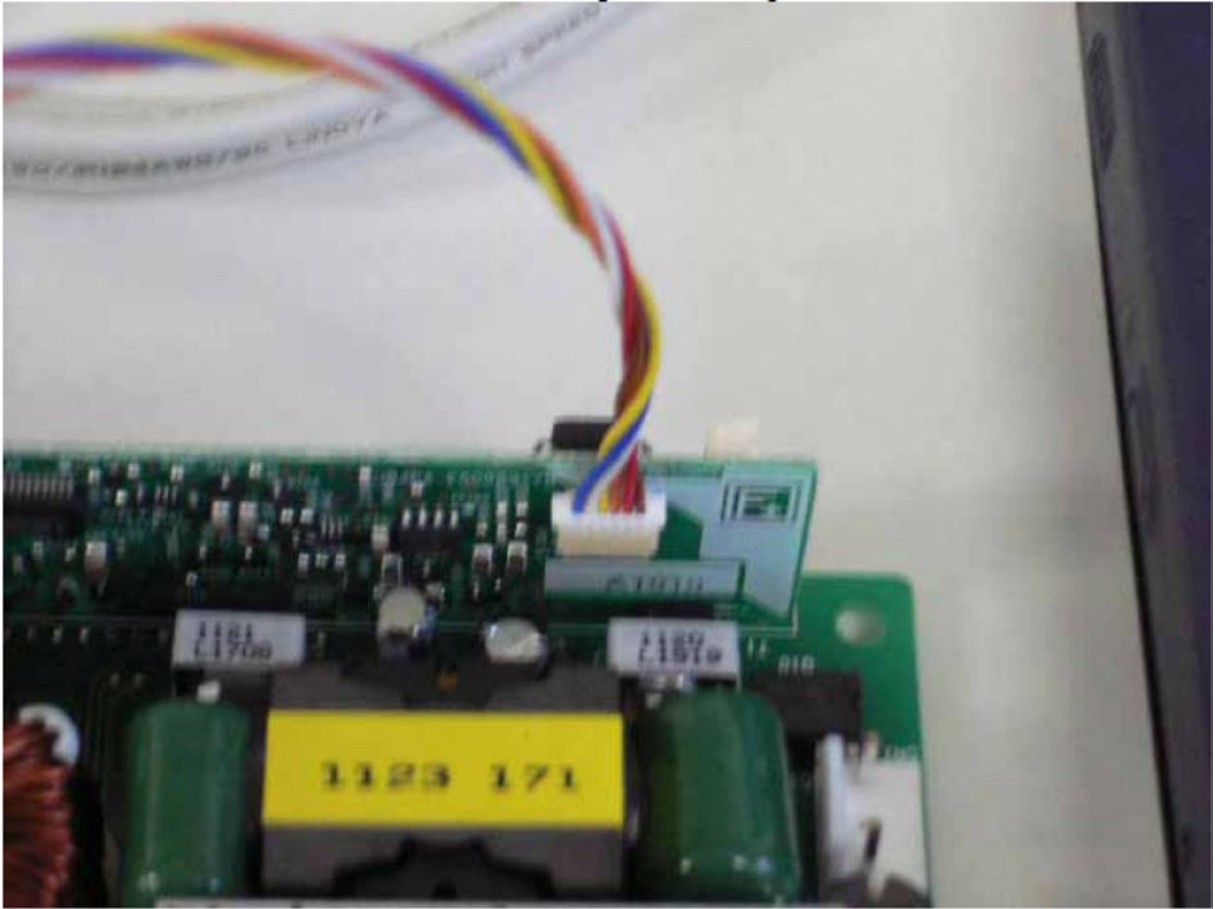

Fig. 2
(4) Connect ICD3 harness and lamp driver (Fig. 2).